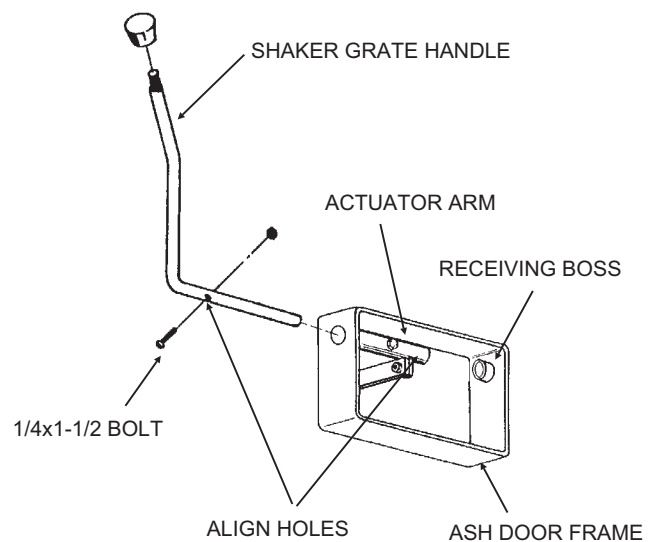

FIGURE 15 INSTALL SHAKER GRATE HANDLE
2. Secure handle to actuator with 1/4x1-1/2 bolt and nut. See figure 15.